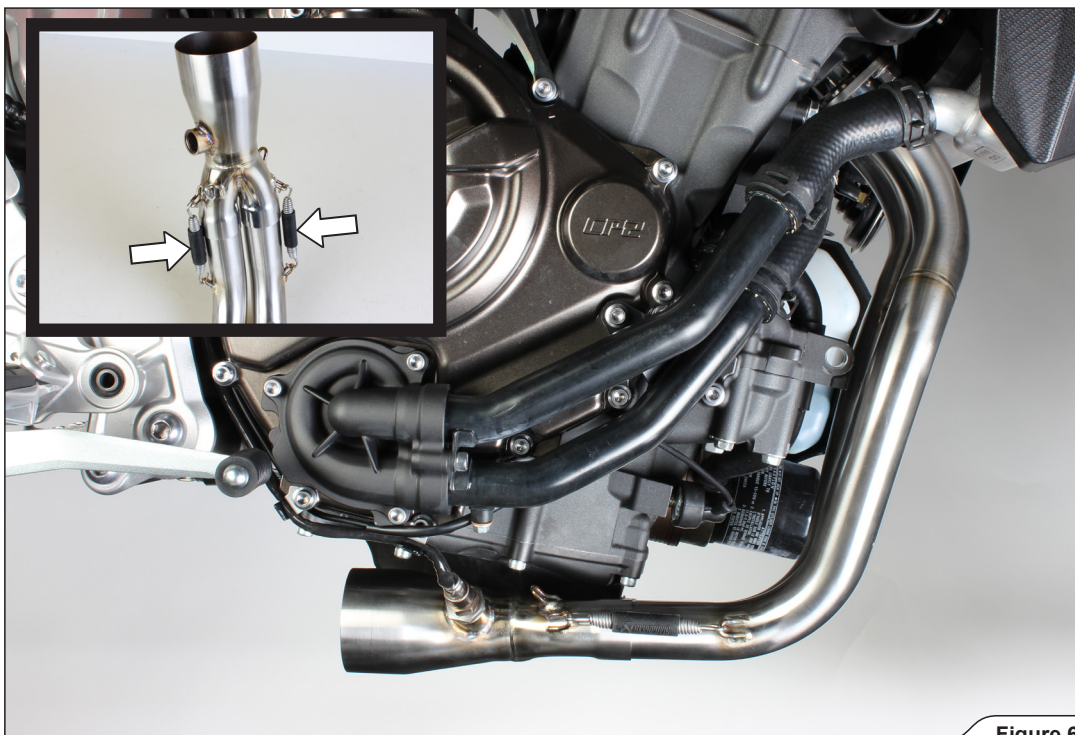

Figure 6
1. Assemble the headers and collector, attach the springs. Install the Akrapović headers onto the motorcycle and hand tighten the flanges onto the cylinder head (using stock nuts) and tighten the lambda sensor into the collector (Figure 6, 7, 8).